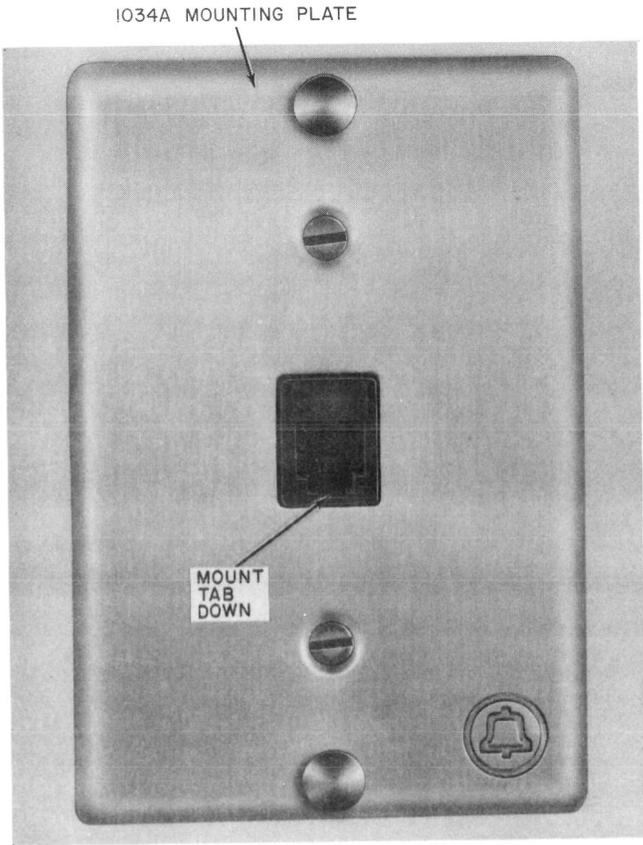
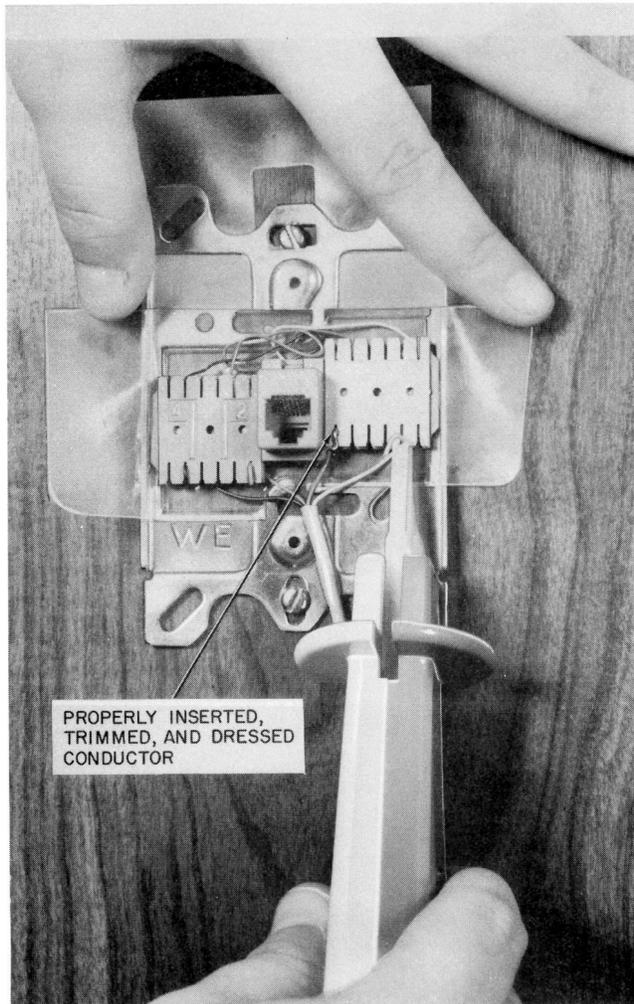

Fig. 8—630A4 Connecting Block (With Mounting Plate)
Fig. 10—Terminating Wire With Lead Insertion Tool in 630A4 Connecting Block
2.12 The **630A4** connecting block (Fig. 8) is a plug-in wall set mounting and will also accept a modular-type mounting cord. It consists of a connecting block (Fig. 10) and 1034A mounting plate. Two 3/16-inch 800413577 (P-41357) cover mounting screws, two 5/16-inch 840705008, and two 1-1/8 inch 841065529 flathead machine screws are included in a fastener package. The 630A4 connecting block is now available as a replacement for the 630A6 and should be ordered accordingly.
2.13 The 797A or 8762D-630 insertion tool head is used for terminating conductors on the 630A4 connecting block. The 8762D insertion tool is adaptable to either the 714B tool handle or the AT-8762 D impact tool; the 797A tool is used with the 714B tool handle **only**. The construction of the blade tips is the same except the 8762D-630 is made of steel instead of plastic. Termination will be the same as shown in Fig. 10.
3.12 630A4 Connecting Block: This block may be flush mounted on a 63-type bracket or electrical type outlet box or surface mounted on a wall. In all cases, the block should lie flat against the wall with connector springs oriented to the top and tab to the bottom (Fig. 8).
Note: The 630A4 connecting blocks manufactured after March 1977 are received from the factory with a plastic protective wrapper folded around the quick-connect terminals. To connect station wire, fold out the front and side flaps, make connections and dress leads (Fig. 10), then refold wrapper
- (1) Leave station wire conductors unstripped.
- (2) Dress the conductors so they will not be pinched or cross over each other.
- (3) Use the lead insertion tool to seat conductors in bottom of slots (Fig. 10). Do not twist or rock insertion tool and allow sufficient slack. Do not insert more than one conductor in each slot. Trim the terminated leads approximately 1/4 of an inch from the connecting surface and bend downward in such a manner that the conductor tips do not make contact with the mounting plate.
- (4) Attach mounting plate (Fig. 8) using the two 3/16-inch 800413577 (P-41357) cover mounting screws or two 5/16-inch 840705008 flathead machine screws from the fastener package.
- (5) Remove the protective mylar cover from the stainless steel plate.
- (6) Check for continuity on each lead by inserting 934A tool or 523A4 plug and connecting test set.